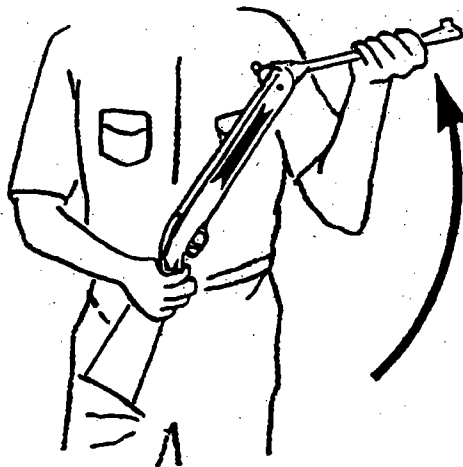

Fig. 4
- Move the barrel back to its original position by pushing the barrel up until it locks. Once again, be careful not to pinch your hands or fingers. (Fig. 4).